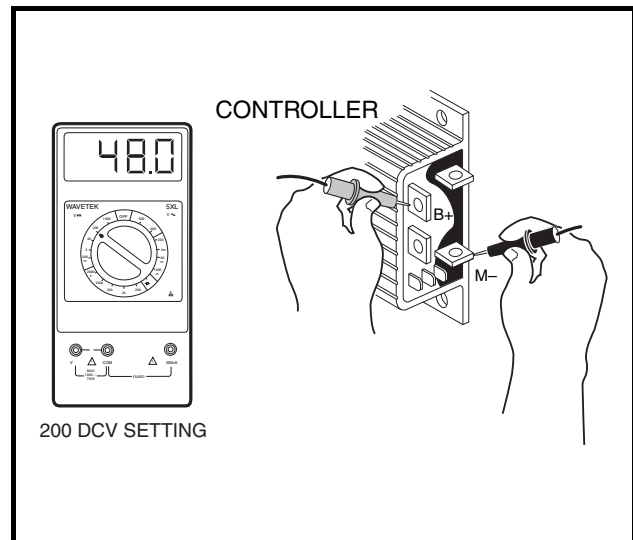

Figure 11-26 Output Voltage Test
- 4.3. Connect the multimeter (set for 200 volts DC) red probe (+) to the controller B+ terminal and the black probe (-) to the controller M- terminal. The multimeter should display less than 48 volts, which is controller capacitor voltage (**Figure 11-26, Page 11-25**).